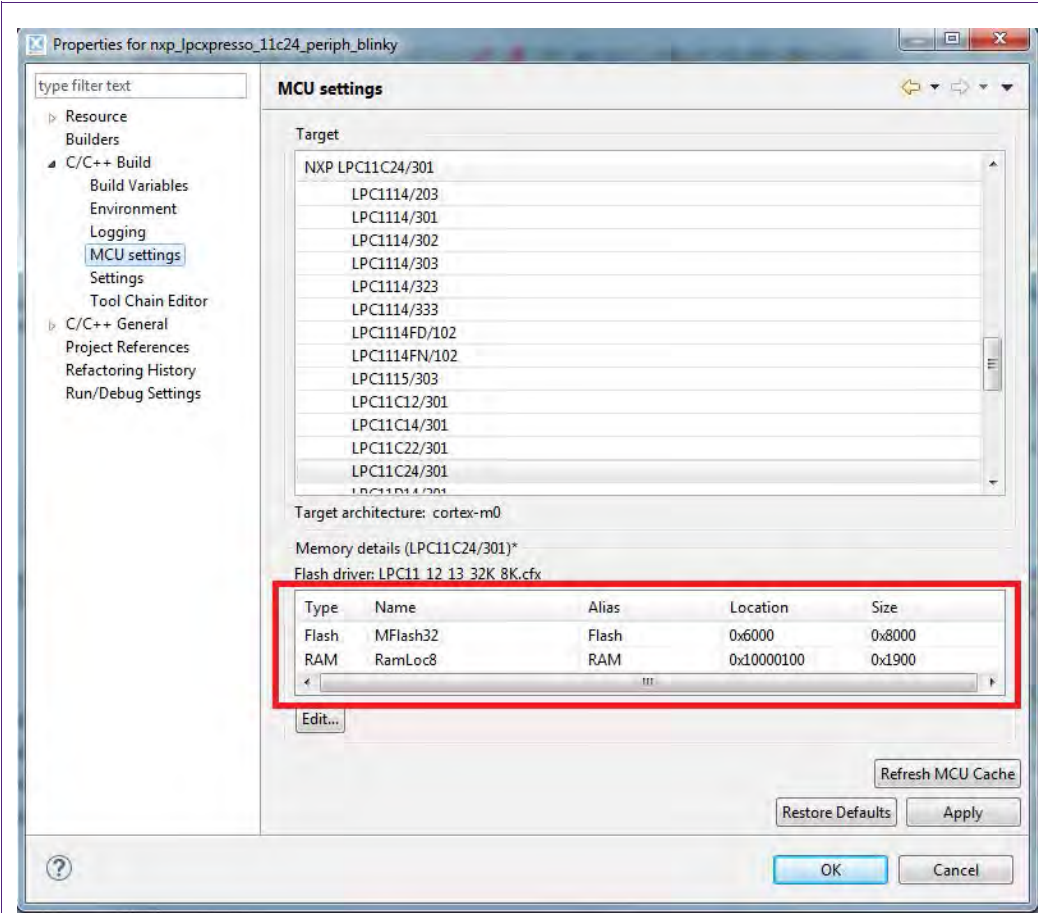

Fig 16. Memory configuration for the user application under LPCXpresso
**NOTE:** FLASH/RAM settings information for each project is displayed in the Fig 16.